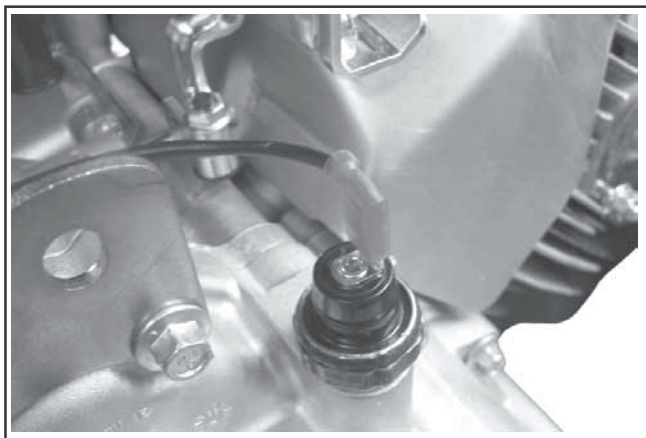

Figure 10-106. Oil Sentry™ Pressure Switch Location.
1. Apply pipe sealant with Teflon® (Loctite® No. 59241 or equivalent) to the threads of the Oil Sentry™ switch and install it into the 1/8" port in the closure plate. See Figure 10-106. Torque the switch to 10.1 N·m (90 in. lb.).